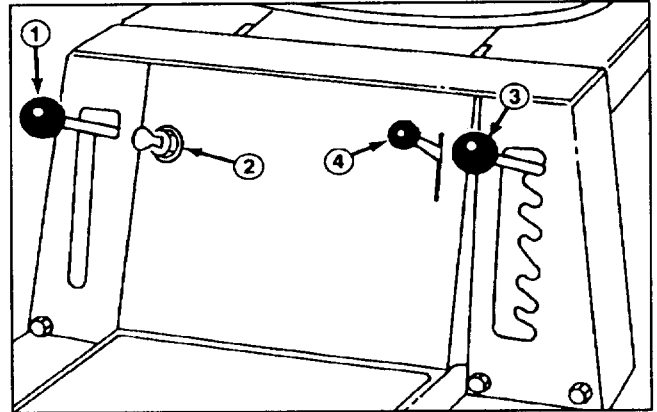

Figure 9
**Deck Engagement Lever (Fig. 9)** – Deck engagement lever engages and disengages the cutter blade. An interlock switch, which is mounted on front of seat base, prevents engine from starting when control is in the ENGAGE position. Engine will start when control is in DISENGAGE position only.
**Ignition Switch (Fig. 9)** – Switch is part of engine ignition system, and it has three positions: OFF, ON and START. Key automatically returns to ON position from START position when released after engine starts.
**Height-of-Cut Control (Fig. 9)** – Height-of-cut control varies the cutting height from 1-1/2 to 4 inches (38 to 102 mm) in six increments.
**Throttle Control (Fig. 9)** – Throttle control connects to and operates carburetor mounted throttle and choke. Control has three positions: SLOW, FAST and CHOKE. Push control slightly to the left and upward to obtain CHOKE position.